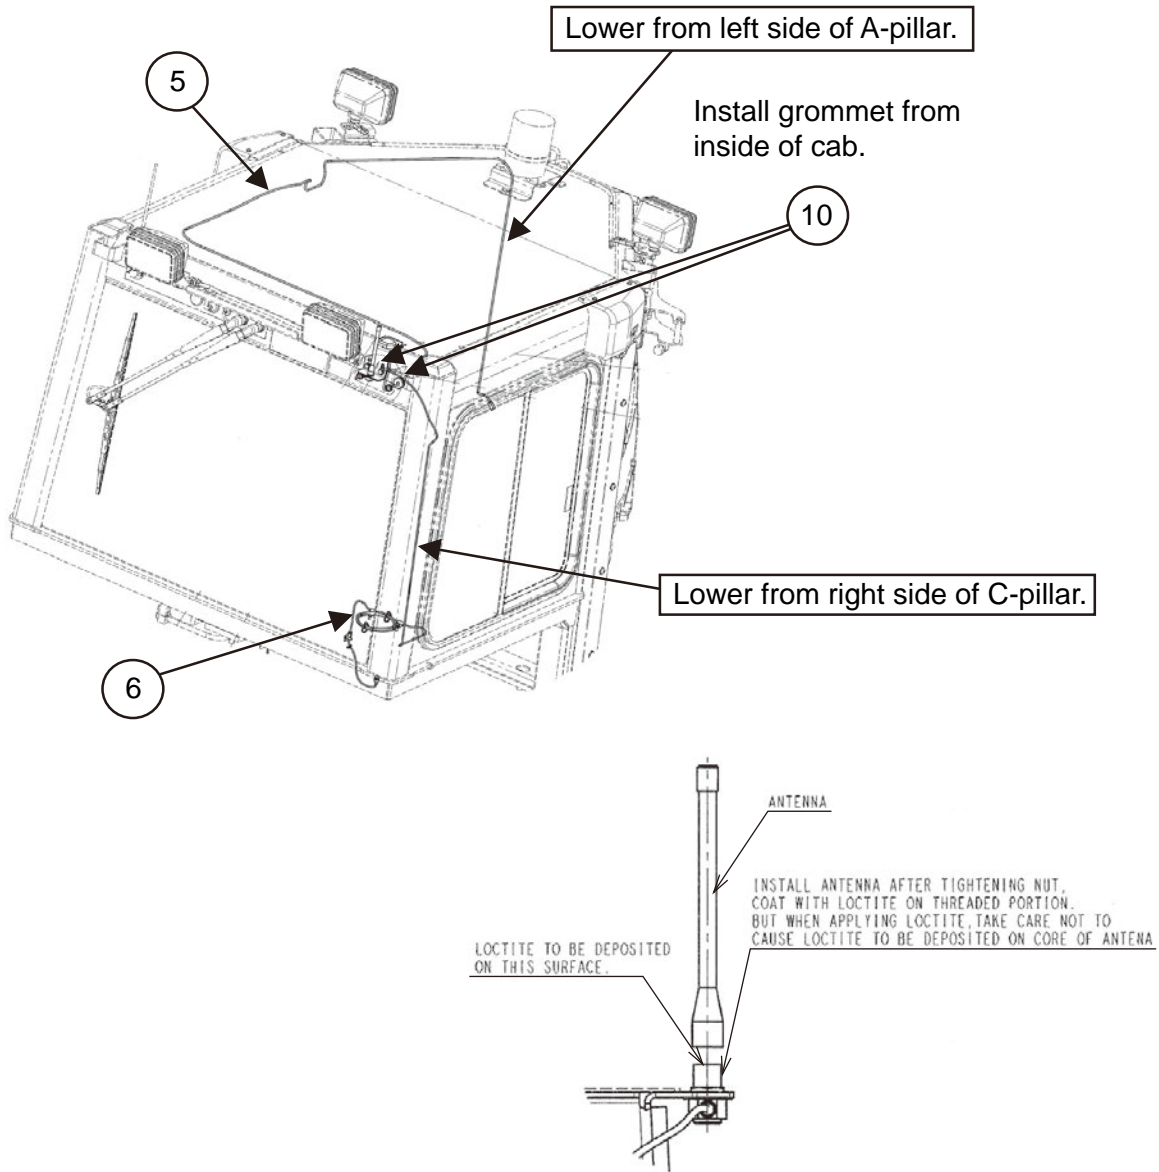

Fig. 5 Route of wiring harness
- Install the antenna to the ceiling as shown in Fig. 5.